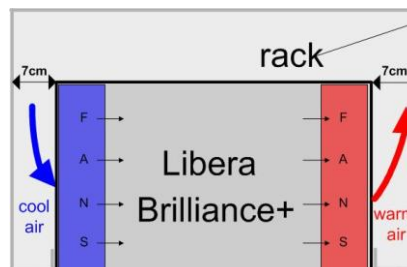

Figure 68: Libera Brilliance+ mounted in a rack cabinet
- Use the rack cabinet that allows proper ventilation. Incoming cool air enters the chassis through the left perforated panel with three fans. Warm air is leaving the chassis through the right perforated panel. Make sure at least 7 cm of free space is available at the sides (see Figure 68). A cabinet with no ventilation is not appropriate for continuous run. Outgoing air on the right panel needs to be properly guided out of the cabinet.